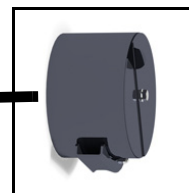

Figure 4.13 Standing Floor Sweep and Air Restrictor
15. As the bin is emptied, there will be grain on the floor and in the corners. Attach the standing floor sweep (see Figure 4.13) onto the end of the steel flex hose (which was attached to the straight aluminum tube). Although the longer hose adds friction to the system, with practice, the user can achieve optimal capacity. Move the standing floor sweep along the bottom of the bin and into the corners. The standing floor sweep has a long slot all the way along the bottom of itself to draw in the grain. Also, the standardly supplied air restrictor (optimizer) can be attached to the intake end of the standing floor sweep. The air restrictor can be closed to enable air and grain to enter only the floor sweep's bottom slot, or the air restrictor can be partially opened to allow air and some grain to enter the end (in addition to the bottom slot), or the air restrictor can be removed from the end of the standing floor sweep to enable larger amounts of grain to be drawn into the end of the standing floor sweep.